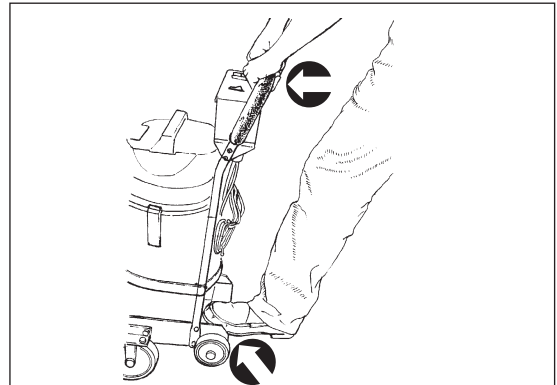

Figure 13
- b.) Tilt the machine back by pressing on the tilt assist strap with your foot while also pushing down on the handle. (see Figure 13)